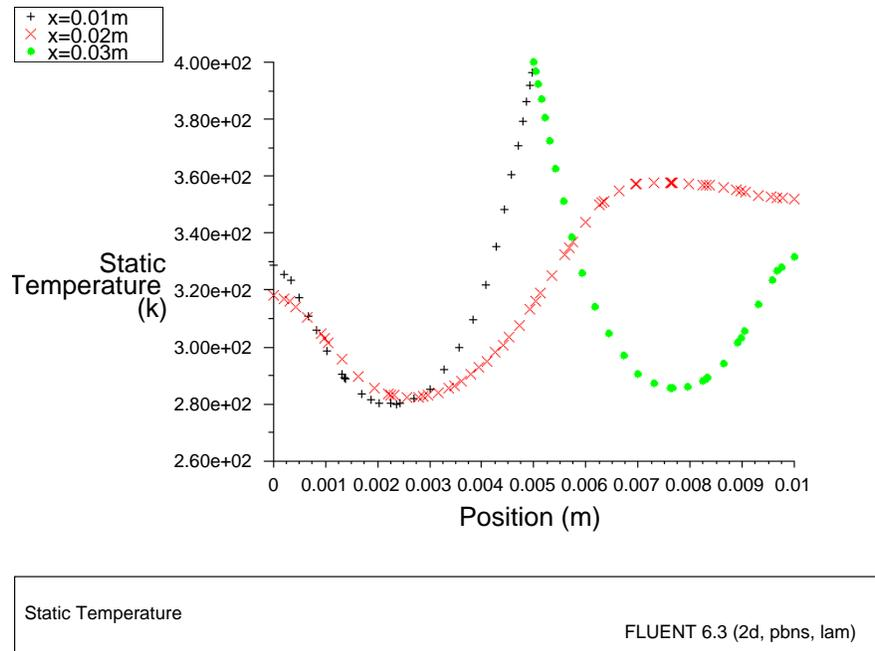

Figure 2.7: Static Temperature at $x=0.01$, 0.02 , and 0.03 m
8. Create an XY plot of static temperature on the three isosurfaces (Figure 2.7).